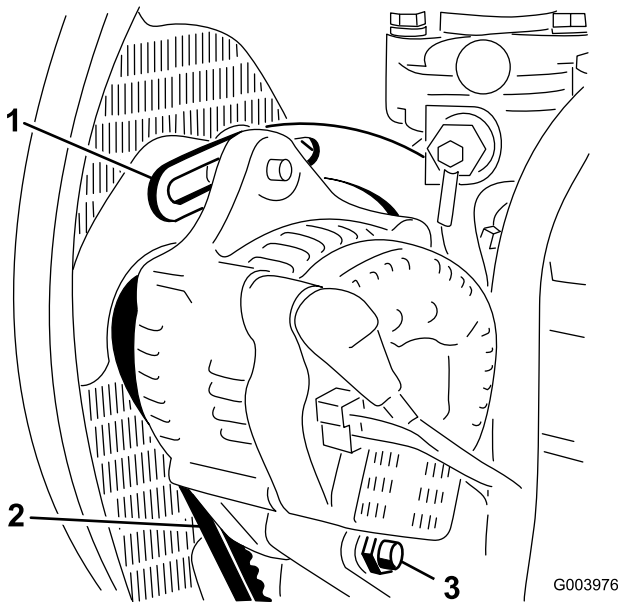

Figure 68
2. Check the tension of the alternator belt by pressing it (Figure 68) midway between the alternator and the crankshaft pulleys with 10 kg (22 lb) of force.
3. Loosen the bolt securing the brace to the engine (Figure 68), the bolt securing the alternator to the brace and the pivot bolt.